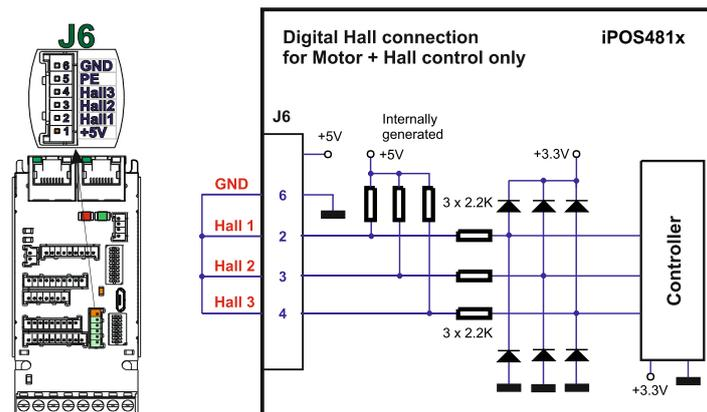

Figure 36. Temporary connection during power-on to remove the drive from Autorun mode or disable Setup
- Hardware2 – by temporary connecting all digital Hall inputs to GND, during the power-on for about 1 second, until the green LED is turned on, as shown in Figure 36. Temporary connection during power-on to remove the drive from Autorun mode or disable Setup”. This option is particularly useful when it is not possible to communicate with the drive.